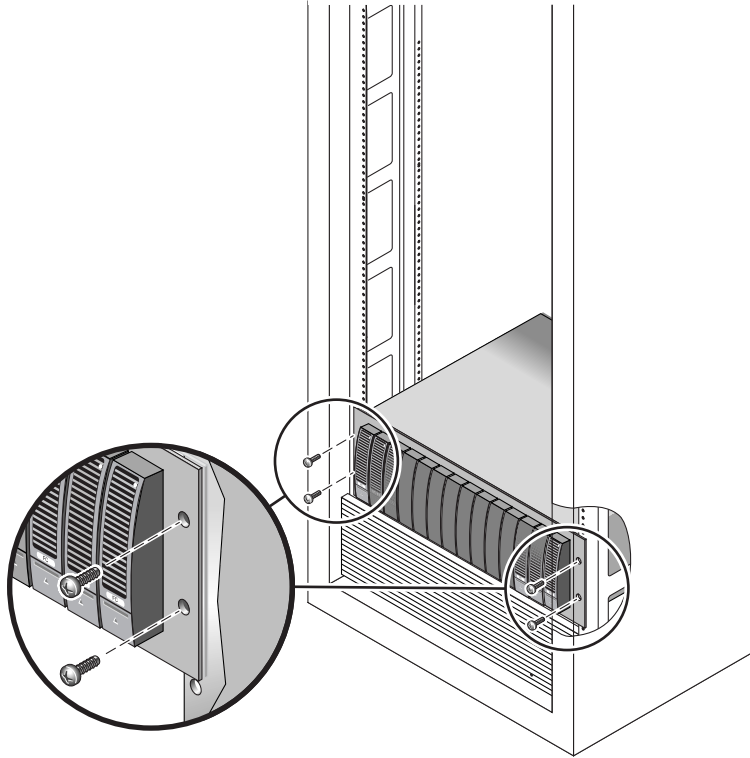

FIGURE 2-16 Securing the Array to the Front of a Sun StorEdge Expansion or Sun Fire Cabinet
- For a Sun StorEdge Expansion or Sun Fire cabinet, use the #2 Phillips screwdriver to insert and tighten four 10-32 screws (two per side) to secure the array to the front of the cabinet (FIGURE 2-16).